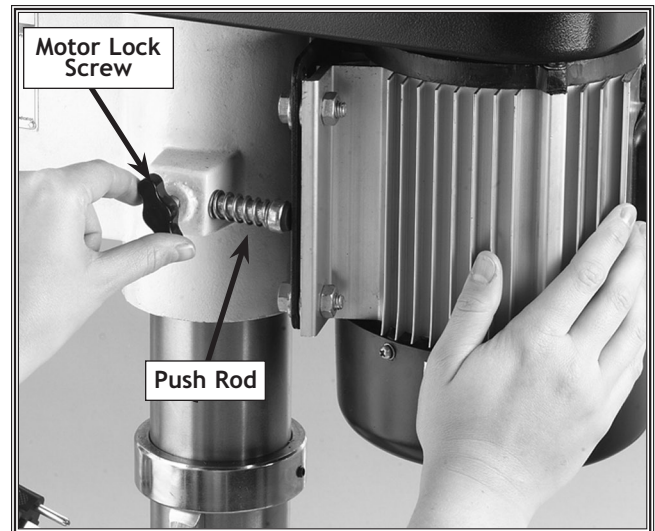

Figure 33. Loosening the lock knob.
3. Loosen the motor lock screw (see Figure 33).
6. Push the motor toward the back of the headstock; the push rod is spring loaded and will follow the motor (see Figure 33).